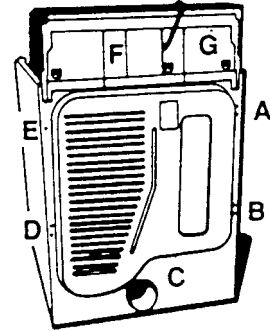

Fig. 45
5. Starting with screw (A), remove in order screws (A), (B), (C), (D), (E), (F), and (G) from back of dryer. (Fig. 45)